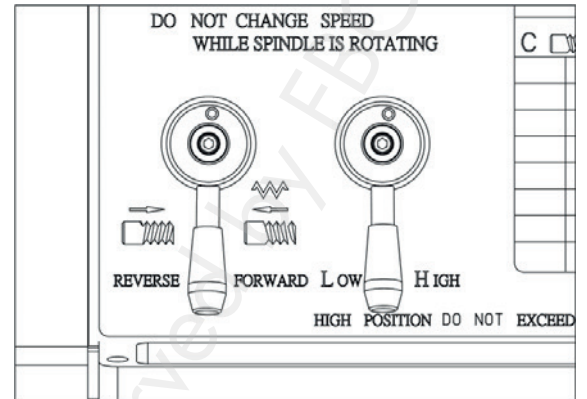

Fig. 17 Gearbox range lever & Feed forward/reverse lever
7. Move the gearbox range lever to neutral as shown in figure 17.
8. Move the feed direction forward / reverse lever to neutral as shown in figure 17.